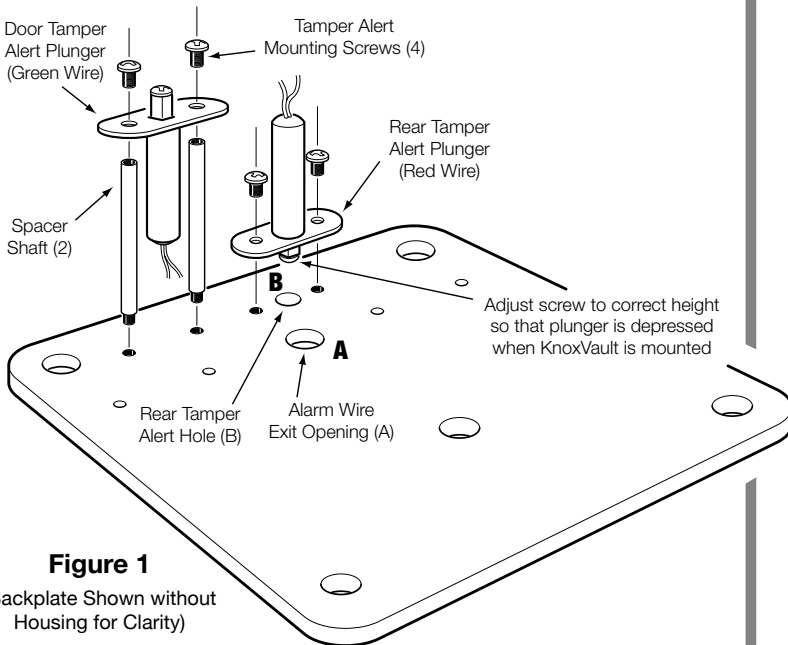

Figure 1
2. Position KnoxVault on wall so wires from alert panel protrude into box through hole (A) in back plate. See figures 1, 2, & 3
4. **Recessed Mount KnoxVault:** Uses door tamper alert only, therefore, the rear tamper alert is omitted. To install tamper alert assembly: Screw the two spacer shafts to screw holes shown in figure 1, then screw door tamper alert to the end of the spacer shafts with provided screws (See figure 1).
Surface Mount KnoxVault: Align rear tamper alert plunger in back plate, hole (B), as shown in figure 1. Check length of plunger and, if necessary, adjust plunger screw to give proper travel. Check plunger contact by GENTLY pressing the bracket flush against the back plate. CAUTION: If the rear tamper alert adjustment screw protrudes too far, the rear tamper alert will break when screws are tightened. Use of an ohm meter is recommended to assure that switch trips (0 ohms – for red/green wire, open for yellow wire) when tamper alert is GENTLY pushed flush against the back plate. Secure tamper alert to back plate with screws provided. Then install door tamper alert as described in 4-A above.
5. Connect tamper alert wires to building alert. Alert wiring must be pulled back through the Alert Wire Opening (A) to prevent interference with door locking mechanism. Green and Red wires must be secured tightly so that if box is removed, wires will be broken in the process, thereby causing alert activation. Yellow wires should be loosely secured so that if box is removed, the wire can pull about an inch to allow the alert to close, causing an alert before the wires break.